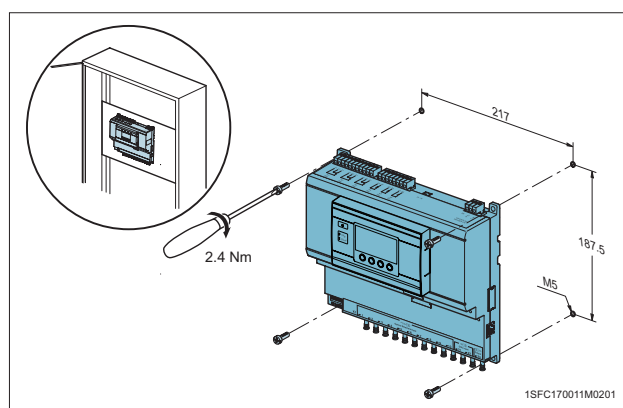

Figure 1
1. Predrill holes in wall to fit screws M5. See **figure 1** for dimensions.